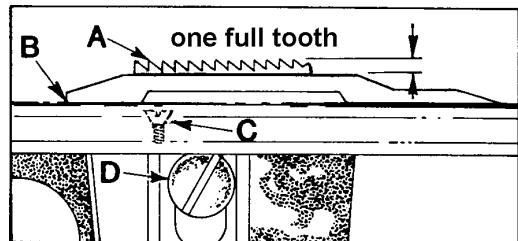

Fig. 10
Feed dog (A, Fig. 10) should be centered in throat plate (B) with equal clearance on all sides and ends with feed travel set to desired stitch length. At highest point of travel, tips of feed dog teeth should extend the depth of one full tooth  $+1/32$  inch, above throat plate and parallel to same. Loosen screw (D), which secures feed dog in position, and adjust screw (C) up or down to support feed dog. Retighten screw (D).